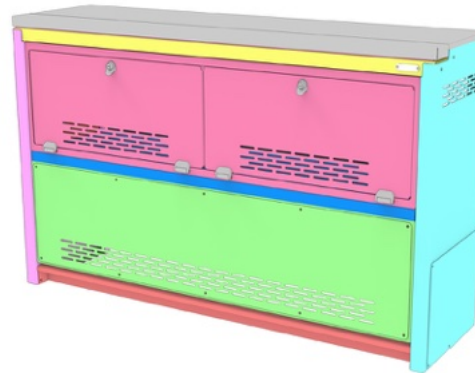

FIG 23
**3.6 Choose Solid Panel / Bungee Configuration:** You may choose to either install the **Solid Panel** or the **Bungee** to the **Panel Bezel**, depending on your needs. See **FIG 23** and **24** for visuals of both options.